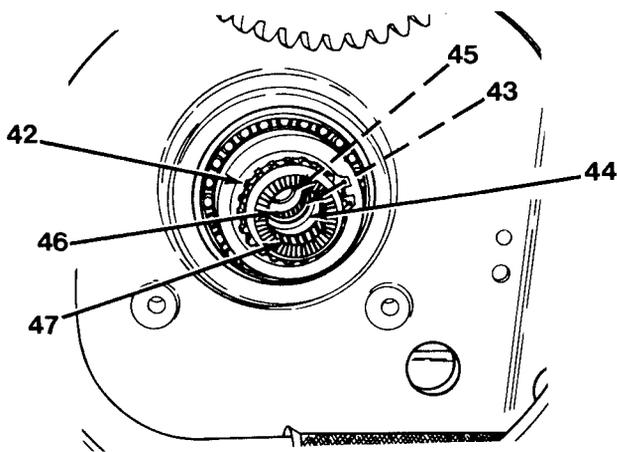
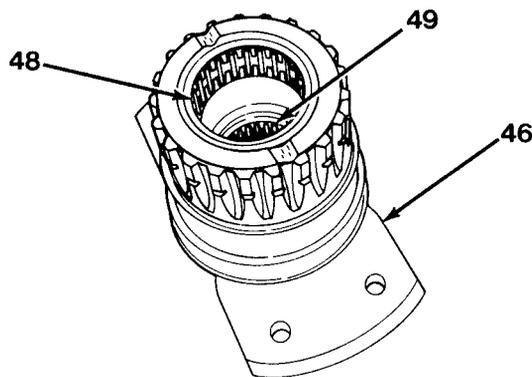

Figure 11-11
Figure 11-12
23. Remove six capscrews (39), two nuts (40) and output disconnect group (41).
24. Remove front thrust bearing (42) and thrust washer (43, Figure 11-11).
25. Remove snap ring (44) and spacer (45).
26. Using hammer and brass punch, remove front output shaft (46) from bearing (47).
27. Using bearing puller, remove and discard bearings (48) and (49) from inside of output shaft (46, Figure 11-12).